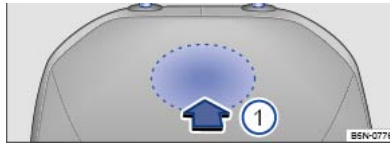

Fig. 90 Front head restraint: removing.
- To unlock it, feel for the recess in the marked area on the rear side and press in the direction of the arrow ⇒ Fig. 90 ①.
- Pull the head restraint out in the direction of the arrow ⇒ Fig. 90 ②.